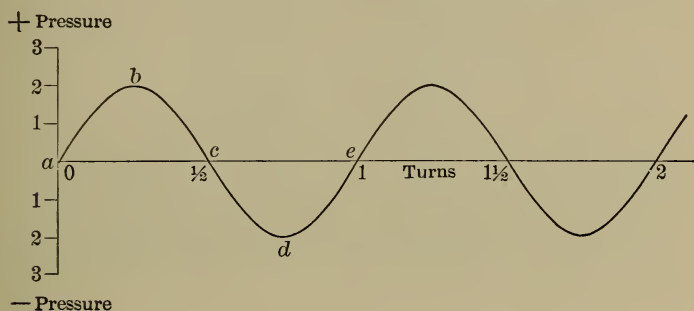
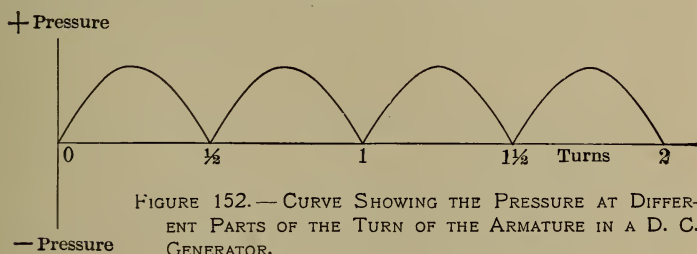
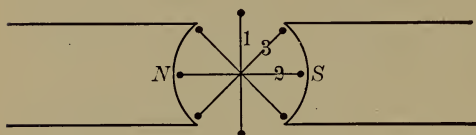

FIGURE 145.—CURVE SHOWING PRESSURE AT DIFFERENT PARTS OF THE TURN OF THE ARMATURE IN AN A. C. GENERATOR.
FIGURE 152.—CURVE SHOWING THE PRESSURE AT DIFFERENT PARTS OF THE TURN OF THE ARMATURE IN A D. C. GENERATOR.
FIGURE 153.—CROSS SECTION OF A GENERATOR WITH 3 COILS.
At position *a* the wire is moving parallel to the lines of force, and so does not cut any. Therefore there is no pressure being produced. This can be shown on the curve (Figure 145) at position *a*.
**194. Curve for D. C.** — Referring back to Figure 145, the curve for the simple generator, we see that the curve changes somewhat when the commutator is put on. It changes to the curve on the preceding page. (Figure 152.)
the curve (Figure 152) we see that the current rises and falls with each half-turn of the loop of wire. This is what is called a *pulsating current*. But if, instead of *one* coil of wire, several coils are put on, as in Figure 153, then the